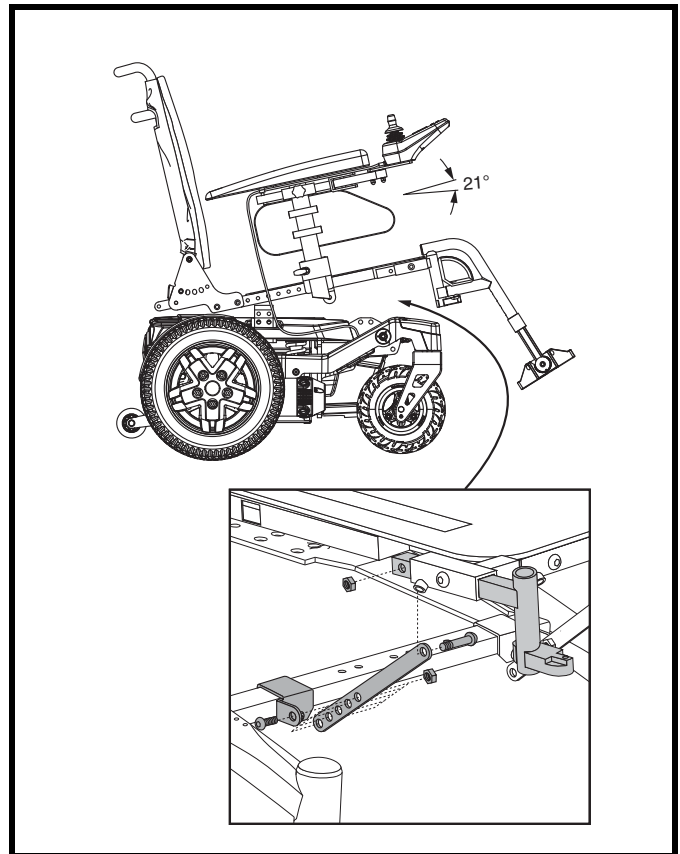

Figure 14. Seat Angle (Dump) Adjustment
2. Remove the seat angle adjustment bolt. **See figure 14.**